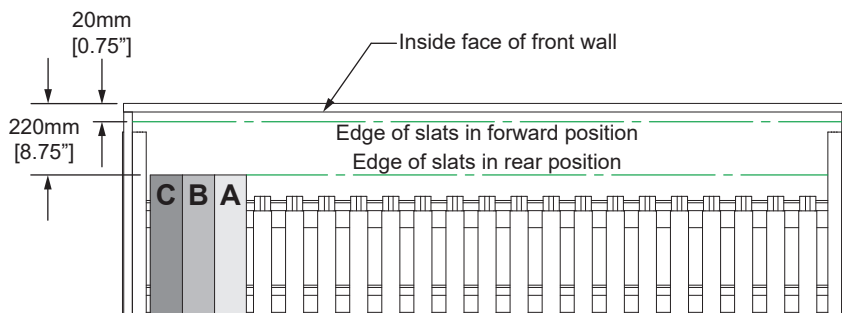

Figure 2 - Front Trailer Detail
2. Calculate the "Slat Length" or "S" by subtracting 280mm [11"] from the "Inside Length" of the trailer (fig. 2 & 3).